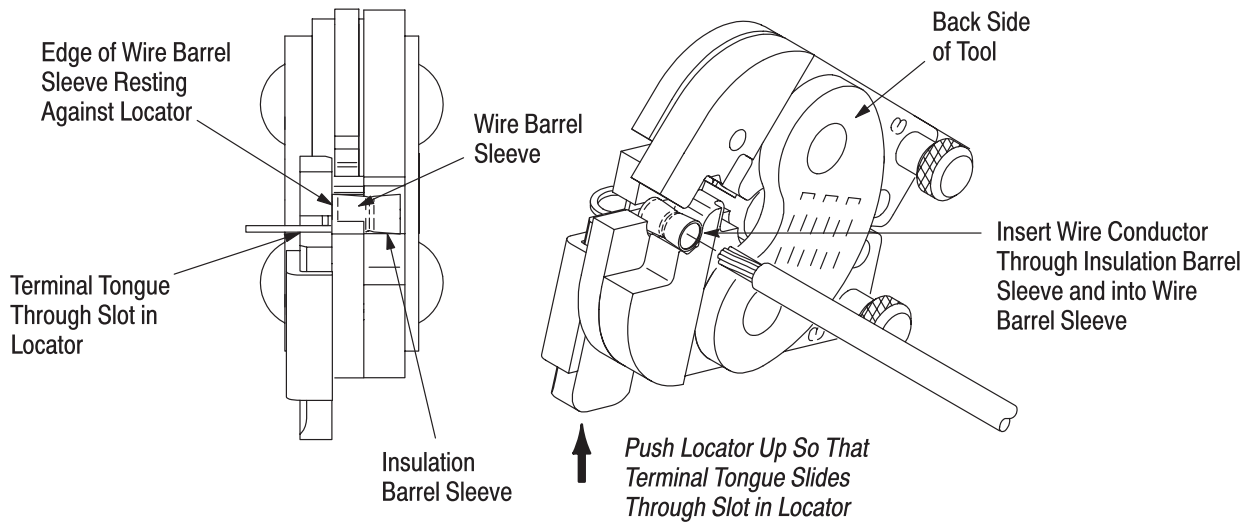

Figure 3
3. Push the locator up and, from the FRONT side of the tool, insert the terminal or splice wire barrel sleeve into the crimping jaws making sure that the edge of the wire barrel sleeve rests against the locator. See Figures 3 and 4.